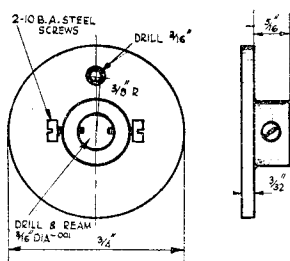

Fig. 10. Details of contact roller, pins and insulation bushes
**T**URN the contact roller from good quality gunmetal, or dark brass, to dimensions in Fig. 10. Leave centre hole slightly smaller and ream to a perfect fit on  $\frac{3}{16}$  in. diameter balance staff. Finish all faces to medium grain, except the edge, which should be "dead" polished. Drill and tap the two 10-B.A. clamping screw holes in the boss, and also a  $\frac{3}{16}$  in. hole for the contact pin, which is, of course, insulated.